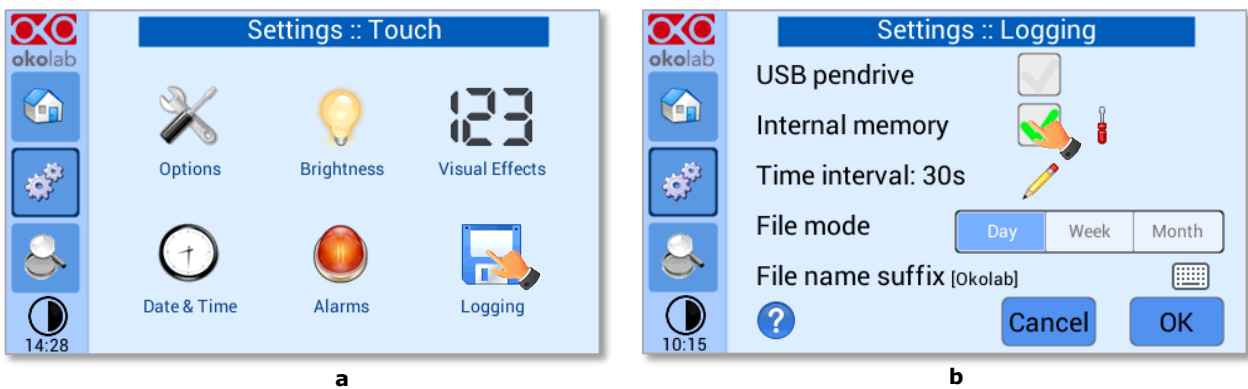

Figure 68. Logging. (a) How to enter in the logging menu; (b) logging in internal memory.
- Press on Logging icon  (see Figure 68 a) and flag *Internal memory* in the page that appears (see Figure 68 b).